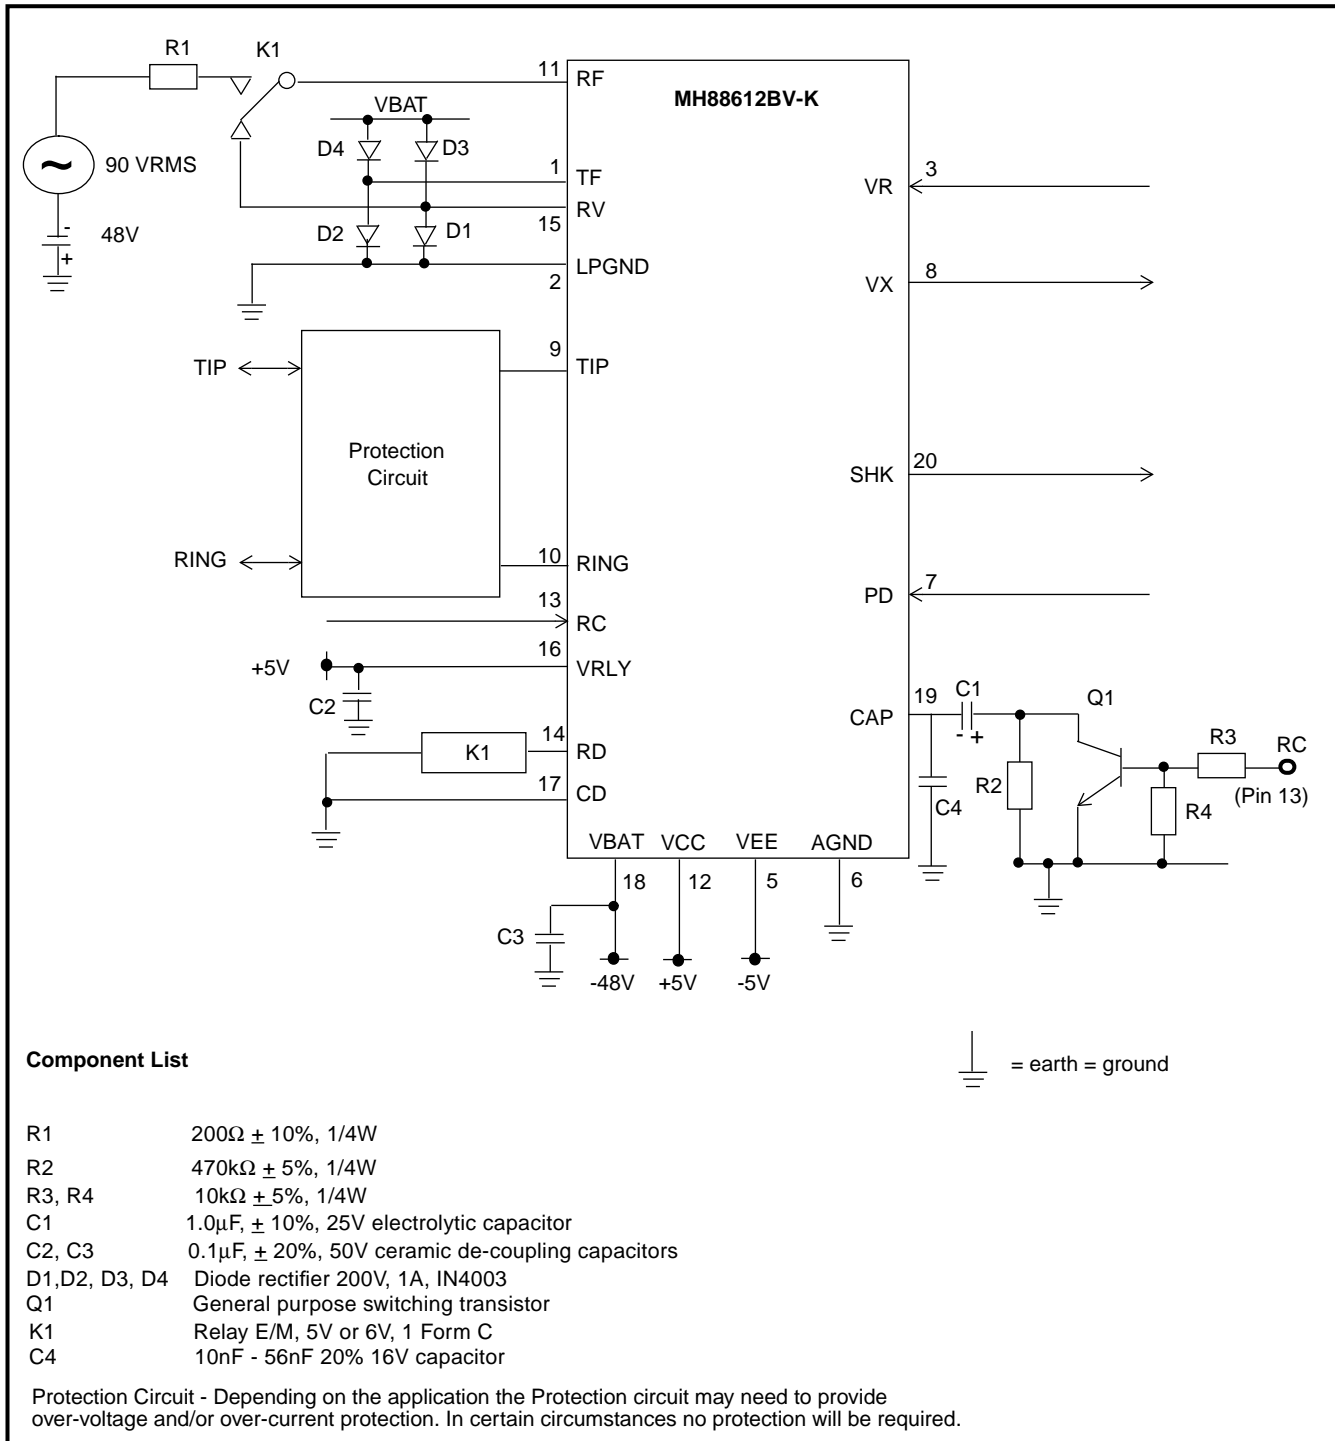

Figure 3 - Typical Application Circuit
Note 1: C4 in Figure 3 can be added permanently to this pin for certain dial pulse applications.
In Figure 3 a ringing signal (e.g.90 Vrms and -48Vdc) is applied to the line by disconnecting pin 15 (RV) from pin 11(RF), and connecting the ringing voltage at pin 11 (RF) by use of the relay K1.
During off-hook conditions (on-line), the capacitor (C1) should not have a low impedance path to ground. This can be achieved using a transistor (Q1) and resistor (R2) as shown in Figure 3, with R2 providing a high impedance path for C1. When ringing is applied (RC = 5V) the transistor will short circuit R2 which will give C1 a low impedance path to ground and provide the required filtering.